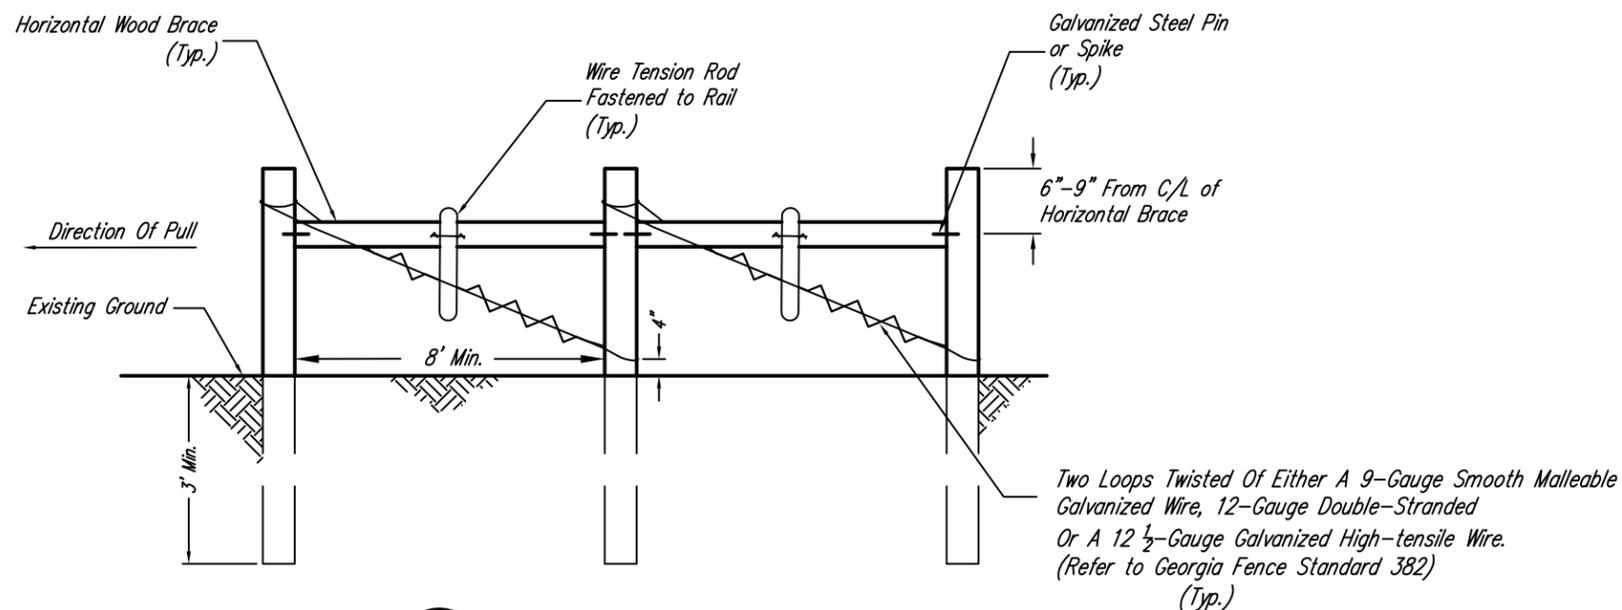

**FIG 1.3** SINGLE H-BRACE CORNER DETAIL
- Use a single H-brace corner post assembly for any angle where fence alignment changes more than 20 degrees. (See **Figure 1.3**)